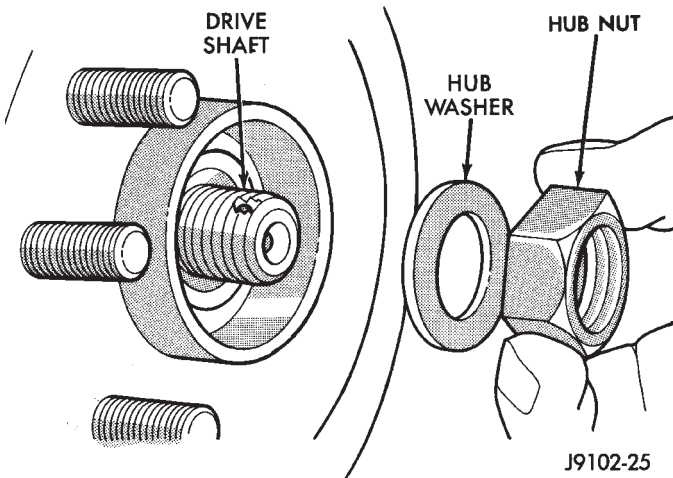

Fig. 4 Hub Nut & Washer
- (5) Remove the hub nut and washer from the stub shaft (Fig. 4).
- (6) Remove the wheel and tire.